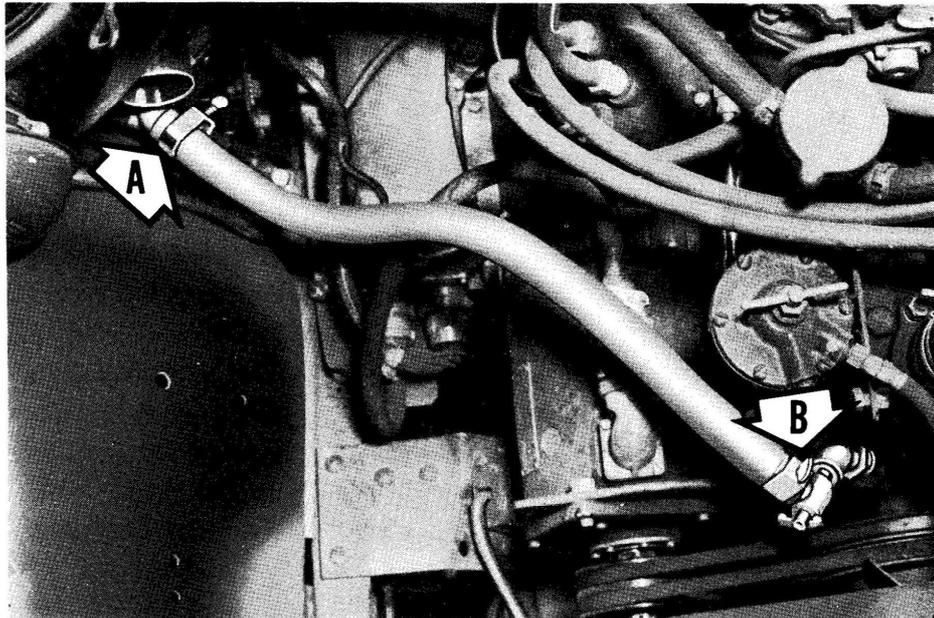

Fig. 19. (A) Coolant hose connected to heater outlet, (B) Coolant hose connected to block inlet.
- f. Connect the other end of the hose to the shutoff cock at the block inlet, Fig. 19.